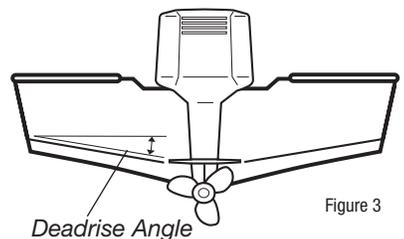

Figure 3
- The hydrodynamic shape of your transducer allows it to point straight down without deadrise adjustment. (Figure 3)